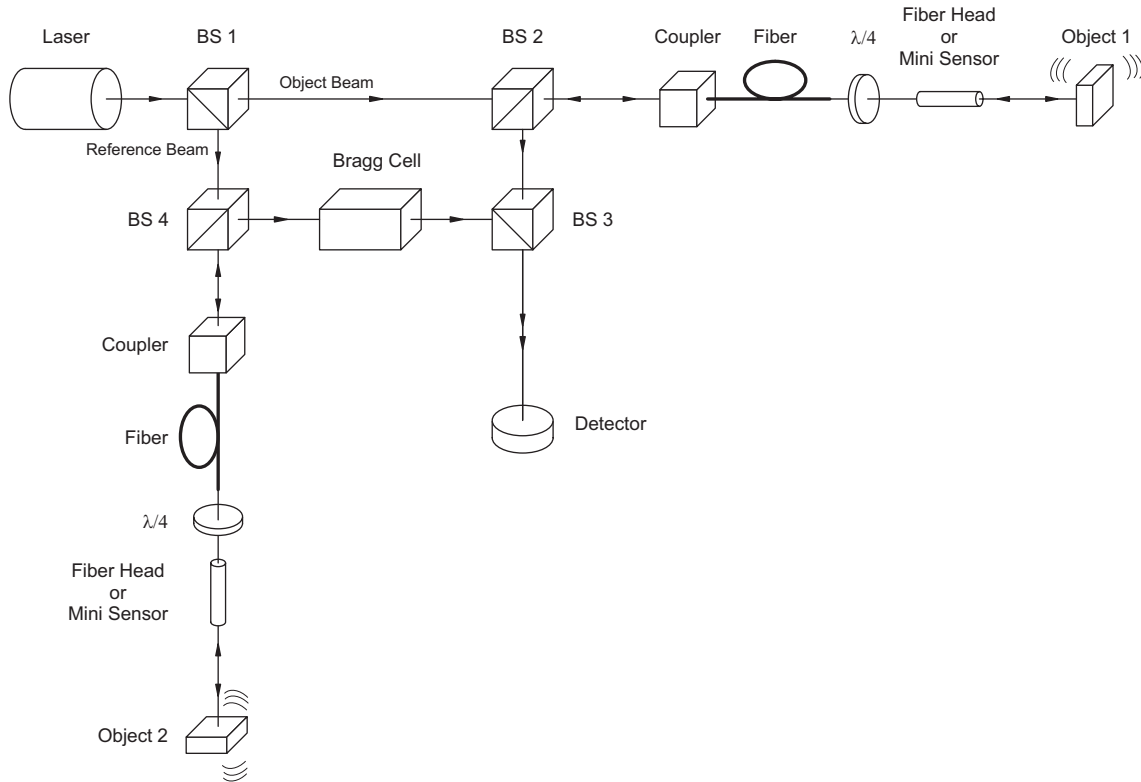

Figure B.2: Optical configuration of the interferometer in the sensor head OFV-512
**OFV-512** The optical configuration of the sensor head OFV-512 is shown schematically in figure B.2.